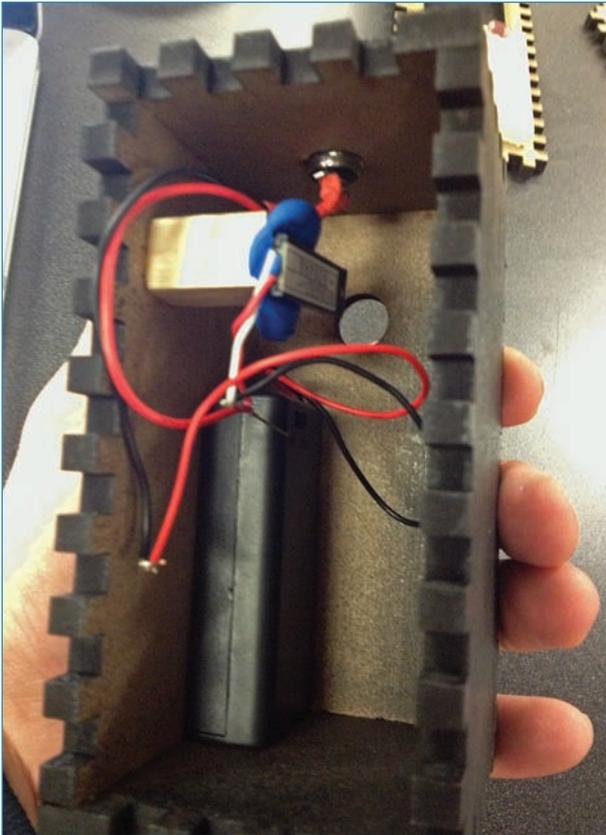

FIGURE 2.19 The laser module; the blue blob is the Sugru used to stick the laser to the block of wood.
- 3.** Glue a piece of wood to the inside of the box as shown in Figure 2.19. I chose a piece of wood about 0.75" in length. Use a piece of Sugru putty (described in Chapter 8) to attach the laser to the wood so the beam shines through the hole in the front of the enclosure. Be sure the laser is shining exactly how you want it, then let the Sugru cure overnight; this holds the laser in place.